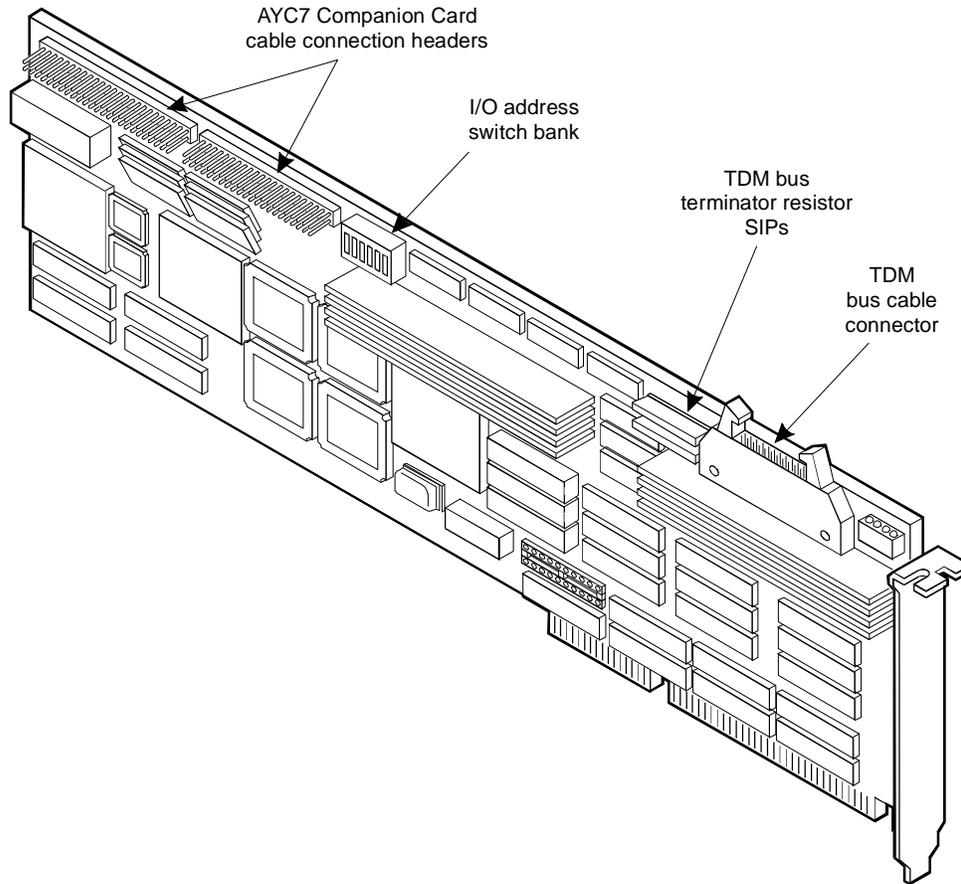
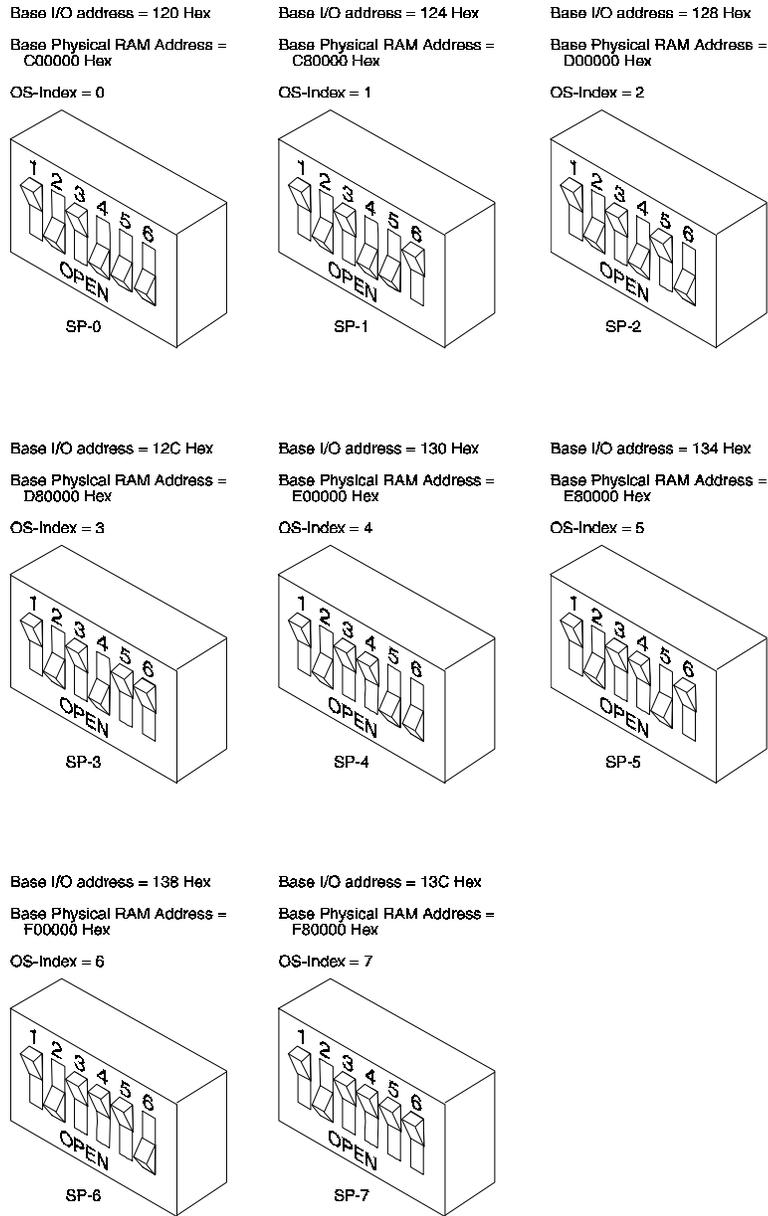

Figure 7-7. Signal Processor (AYC2C or AYC9) Circuit Card
Figure 7-8. Switch Settings for the Signal Processor Circuit Cards (AYC2C or AYC9), SP-0 through SP-7
This section lists the types of Signal Processor (SP) cards (Figure 7-7) in the MAP/100C and describes how to set their resource options and place them in the backplane.
You must set one bank of switches on the SP circuit card. See Figure 7-7 for the location of the switch bank and Figure 7-8 for the correct I/O address switch settings for SP-0 through SP-7.
Notice in Figure 7-8 that the switches are numbered one (1) through six (6). Switch 1 is a no-option switch. This means its setting is not significant. The figure shows this switch as open, but it does not matter if it is open or closed. Switch 2 must be closed. Switch 3 must be open. Each figure also displays the OS index number for the corresponding switch settings. Intuity CONVERSANT VIS uses this index to identify each SP card.